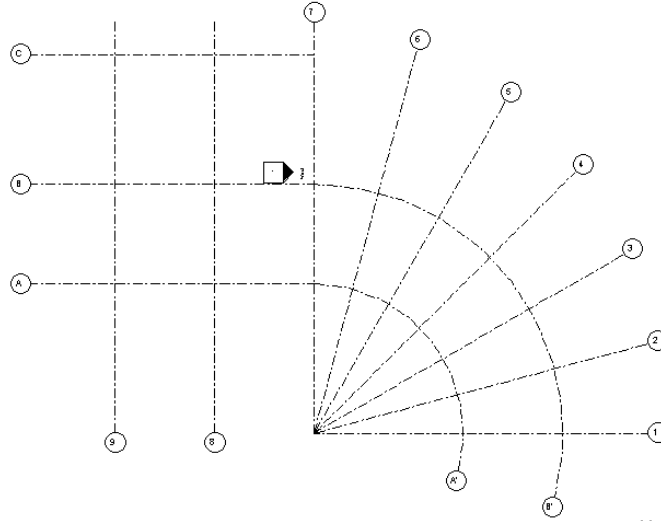

Figure 3-65 The grid lines with new names
- To rename all the grids in the project, select them individually and repeat steps 2 and 3. Refer to Figure 3-65 for new names of the grids.